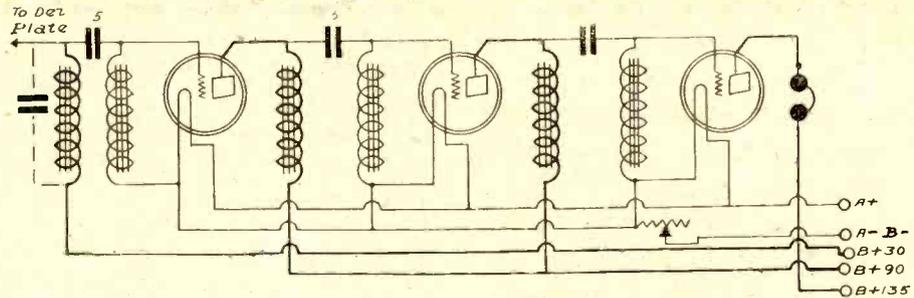
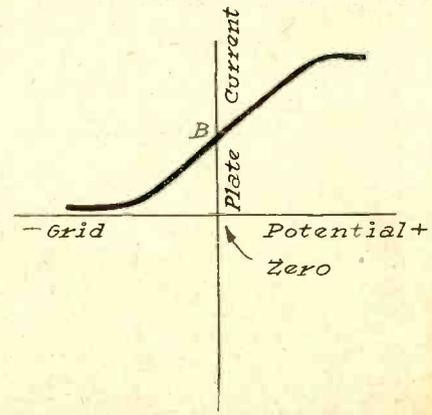

FIG. 1
FIG. 3
H. P. Donle, well-known scientist and inventor, has invented the efficient Truphonic system of audio-frequency amplification, in which there is no magnetic coupling. Fig 1 shows condensers through which the audio frequencies pass directly from the plate of the preceding tube to the grid of the following tube. The effect of this coupling condenser is not changed by grid currents. Consequently, with this system, we can use the entire portion of the curve, left to right, in Fig. 3. As point B on the curve is the mid-point, we can utilize twice as much of this curve as you can with a transformer. As the comparative power output is the square of the voltage fluctuations, we are able, therefore, to obtain the square of 2, or 4 times the power output as compared with a transformer.